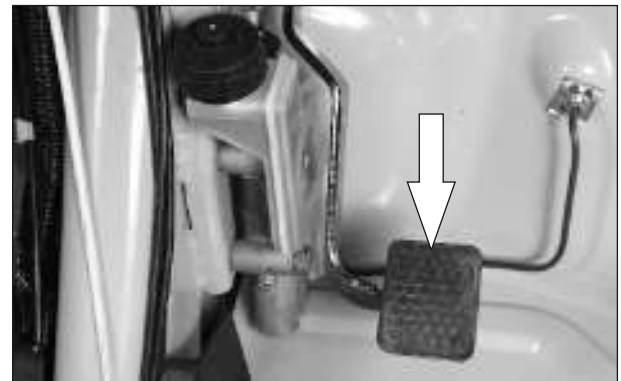

Fig. 2.74
**Note:** Do not release the brake pedal while the bleeder screw is open, as this will suck air back into the system. (Fig. 2.74)